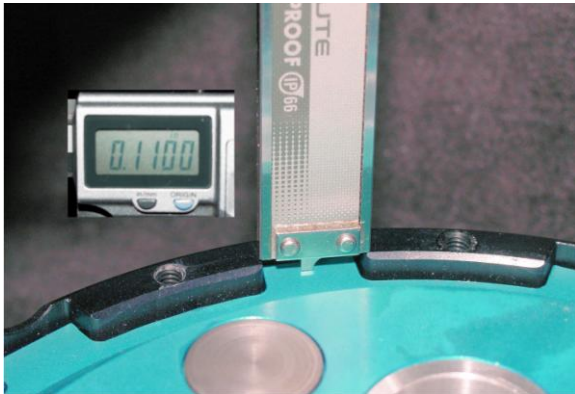
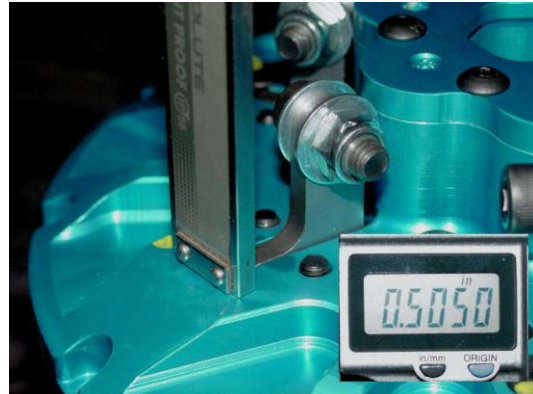

Fig. 1
Fig. 2
- E. Install the friction and metal plates the same way as with the stock procedure, except eliminate the stock ring and spring washer, start with a steel, then fiber, then steel, continue until you end with a fiber. The GSXR1000 Gen II clutch has (8) steels (.091''thick) and (8) fibers (0.111'' thick) plates. The total clutch pack should be approximately 1.616''.
- F. Insert the pressure plate on top of the last fiber. The height from the top of the tang, on the pressure plate to the top of the basket should be approximately 0.110" (See Fig. 1). This will give you an air gap below your arms to the buttons of 0.110".
- H. Place the hat assembly on the basket and tighten the twelve (12) allen head cap screws to secure it.
- I. The air gap between the arms and the pressure plate buttons can be measured using the thin bottom section of a caliper. Stick the caliper rod into the slot opening just behind the arm (See Fig. 2) until it hits the top of the button on the pressure plate. Take a height reading to the top of the Gen II hat, this reading should be between 0.490"-0.510". This gives an air gap of 0.100"-0.120". It is better to start with an air gap of 0.100" to compensate for clutch wear. This technique can be used to maintain the air gap, after repeated runs, without removing any part of the clutch.